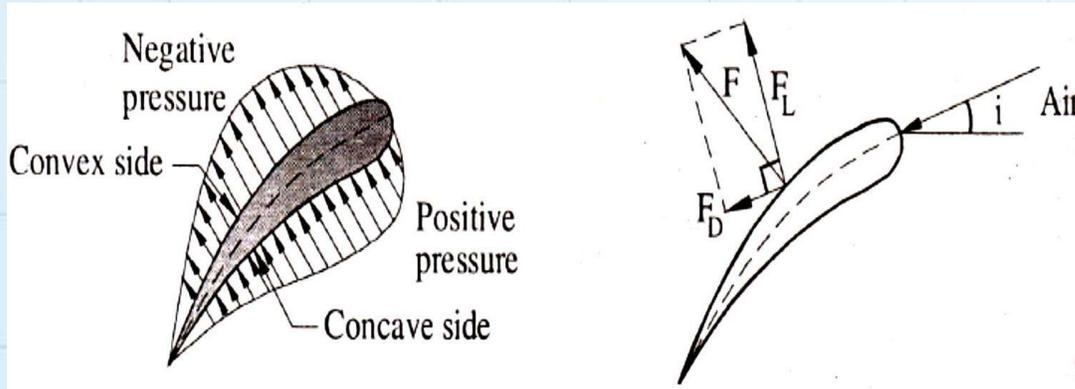

Fig.7.5 – Pressure distribution around a cambered aerofoil blade and lift & drag forces
- ▶ The static pressure distribution around a cambered aerofoil with an angle of attack ' i ' is shown in Fig. 7.5.